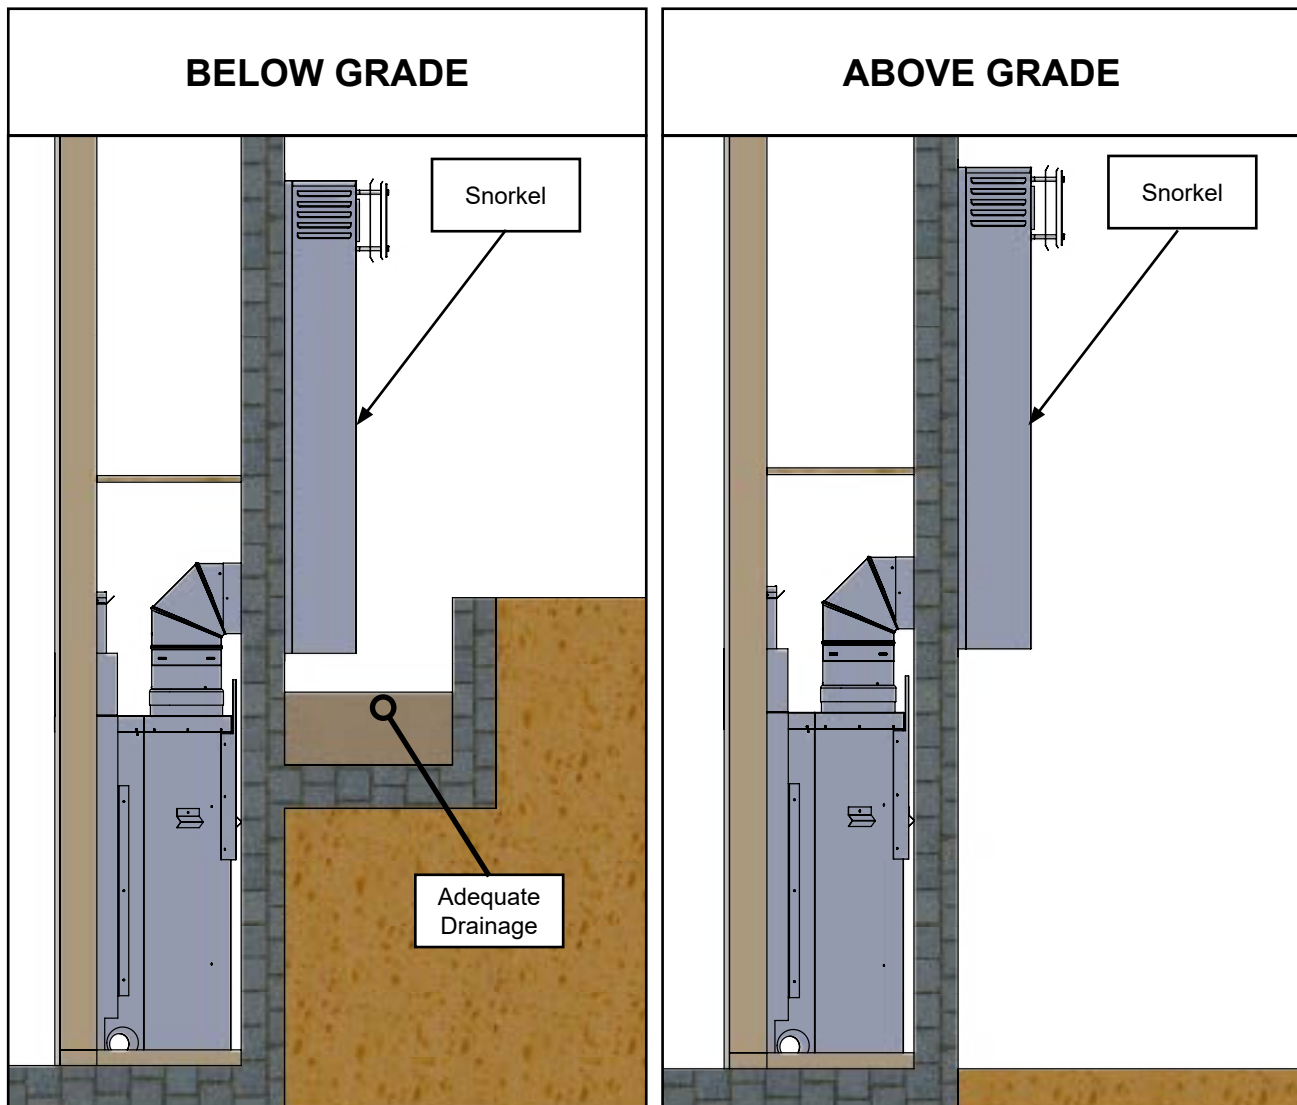

Figure 10.6.01
- A snorkel counts as two 90° elbows out of the total number of allowable elbows in the vent run. For example, the installation in **Figure 10.6.01** shows the use of three (3) 90° elbows
- If the snorkel termination is installed below grade, (IE: basement) proper drainage must be provided to prevent water from entering the snorkel termination (see **Figure 10.6.01**)